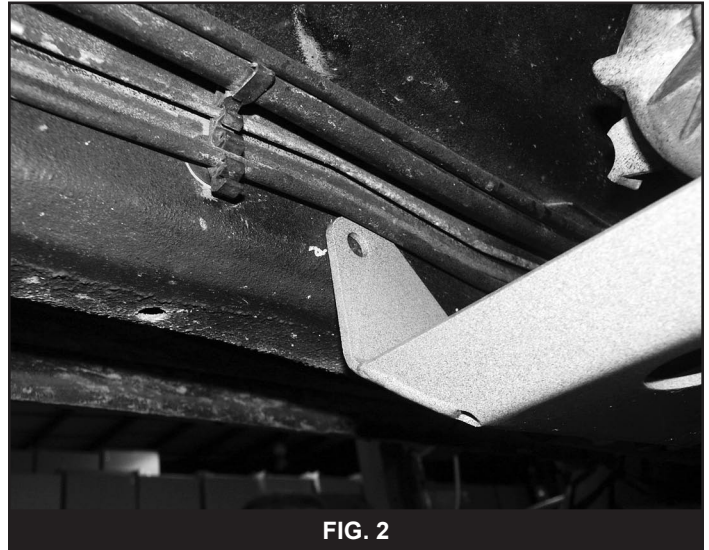

FIG. 2
3. Adjust the skid plate so that the rear-most vertical tab is against the inside edge of the uni-body frame rail (Fig 2) and the bottom of the skid plate is flush with the bottom of the crossmember. Torque the 1/2" bolts to 65 ft-lbs.